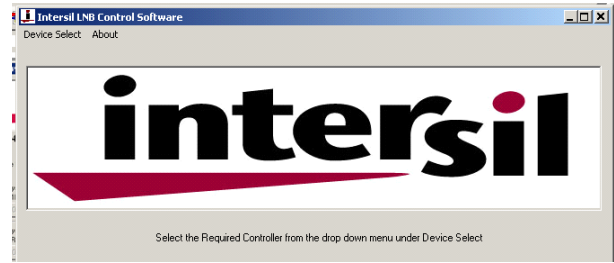

FIGURE 1. CONTROL SOFTWARE WINDOW
3. After installing program, go to 'start' menu in Windows, 'all programs', 'Intersil', 'ISL9492', and select 'ISL9492 Eval'. The screen should look similar to Figure 1.